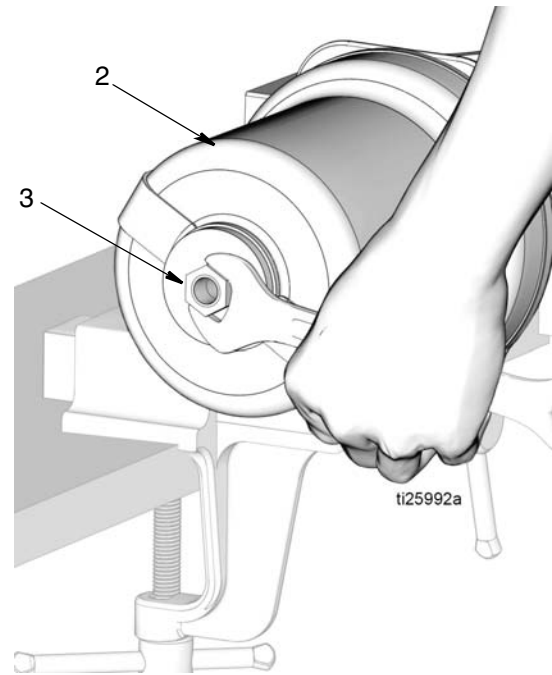

FIG. 18
13. Remove piston stop nut (3) from top of the air cylinder (2) (FIG. 18).